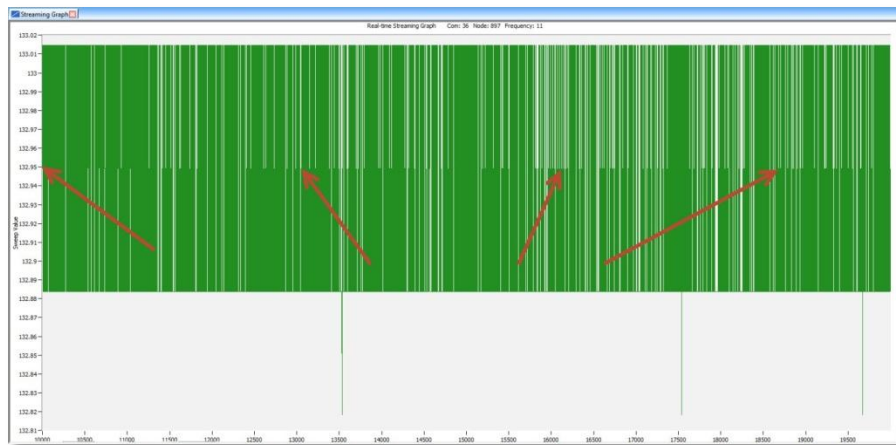

Figure 5: Streaming Graph
- When the stream is ended, observe the mean value of the plot line. In our example in Figure 5, we see a mean value of 132.95.